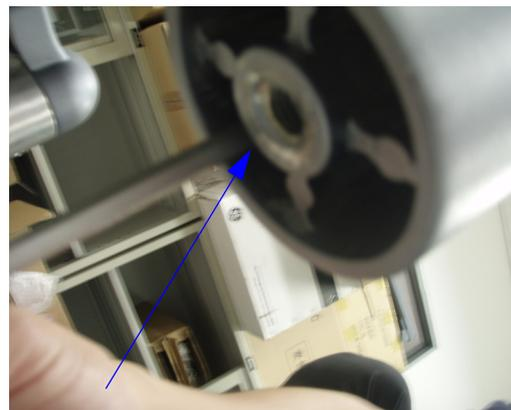

Figure 8-26 Replacement Procedure
- 1.) Pull one of the wheels on the wedge, refer to Figure 8-26 on page 47 .
- 3.) Fix the first groove of the wooden wedge under the base chassis and at diagonal position of the wheel which is replaced, refer to Figure 8-26 on page 47 .
- 4.) Use spanner to unscrew the wheel and remove it, refer to Figure 8-26 on page 47 .
- 5.) Touch the screw hole in the base chassis, install the castor to the screw hole and fix the castor with spanner, refer to Figure 8-26 on page 47 .